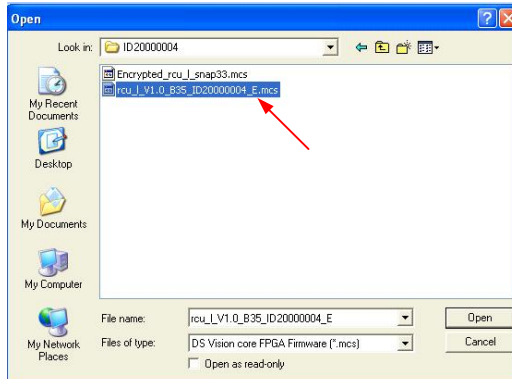

Figure 46 FPGA file with the .mcs extension
8. Select the FPGA file with the .mcs extension, see Figure 46 and click Open, the FPGA upgrades.